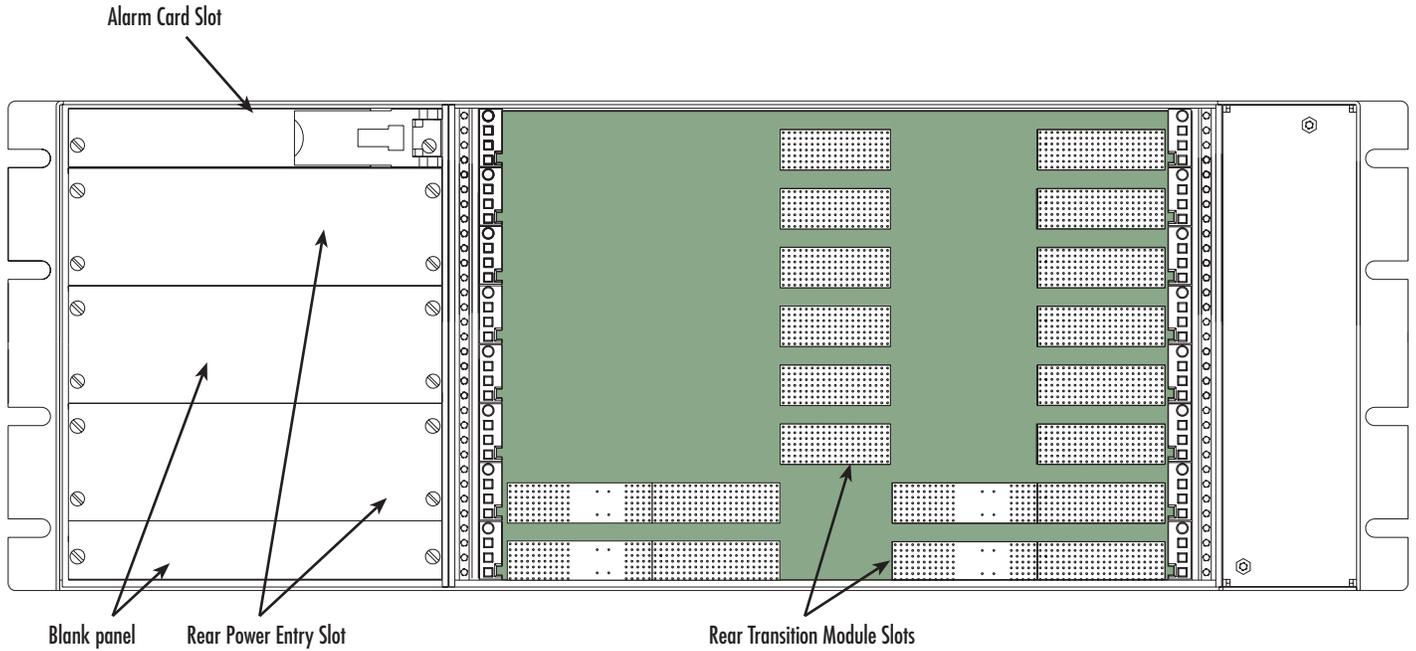

Figure 4. Rear view of chassis
- A set of 3U slots allocated for the following uses (see figure 4 on page 20):